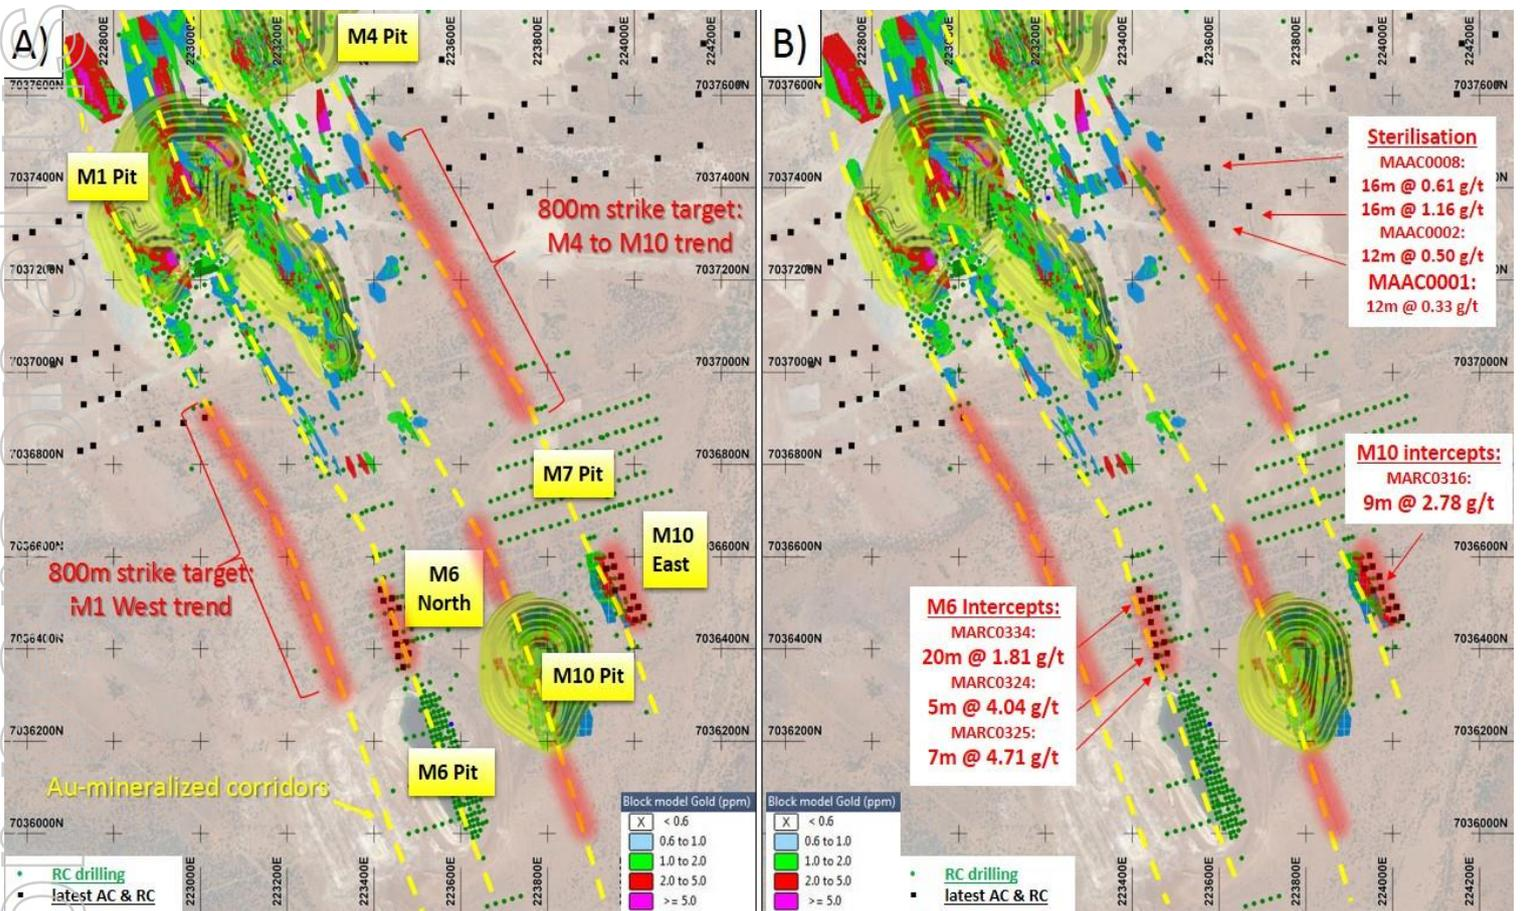
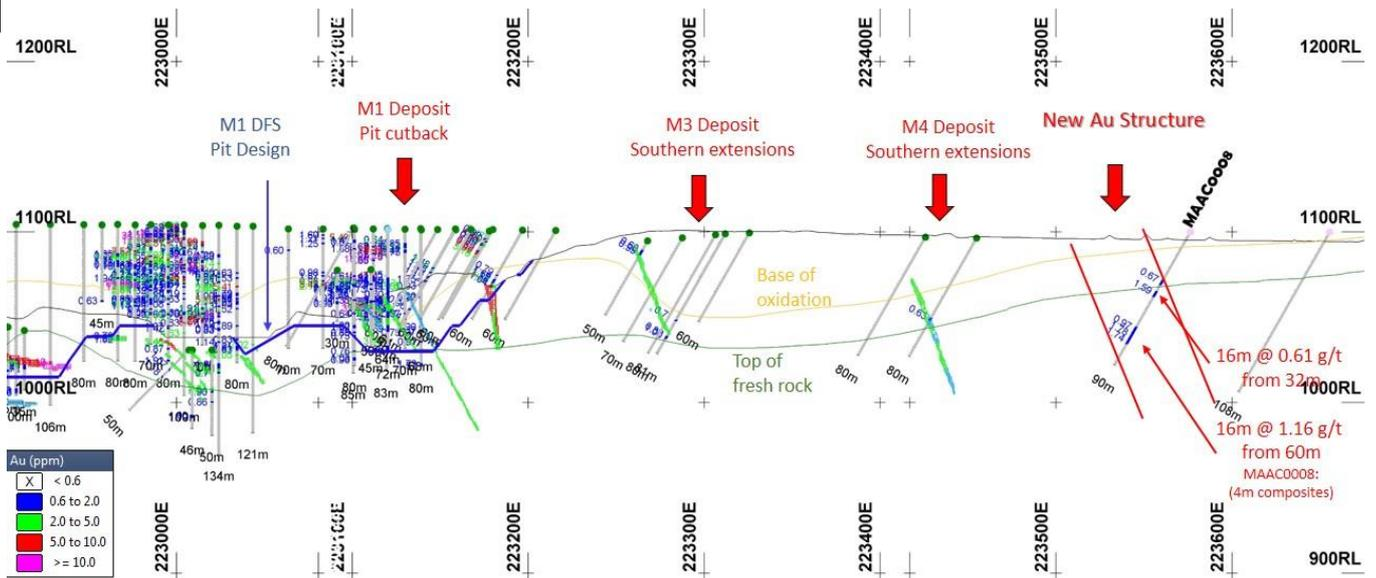

Fig 1. A) Stacked Au mineralised corridors at Matilda with limited drilling; B) M6 North and M10 East drill targets and results
Fig 5. Cross section showing stacked lodes at Matilda and the new M4 East structure intersected in sterilisation drill hole MAAC0008
Aircore (AC) sterilisation drilling of the planned Matilda waste dump location returned highly anomalous composited grades from a new Au-mineralised structure that extends between the M10 East shoot and the M4 pit (Fig 1). Follow up drilling of this new structure will begin shortly.
The M6 North shoot is situated immediately north of the previously mined M6 pit, and is on the same Au-mineralised structure as the M1 deposit that is located 800m further north (Fig 1). Highly encouraging results have been received from numerous holes drilled into the M6 North shoot and scope remains to find further shoots along ~800m of strike on 3 poorly-tested Au-mineralised corridors between M6 and M1 pits.
Aircore sterilisation drilling at the planned Matilda Run of Mine area (ROM) has returned highly anomalous gold grades that reveal a new Au-mineralised structure (Fig. 1 and Fig 5.) that extends for 600m of strike length between M4 and M10 deposits.